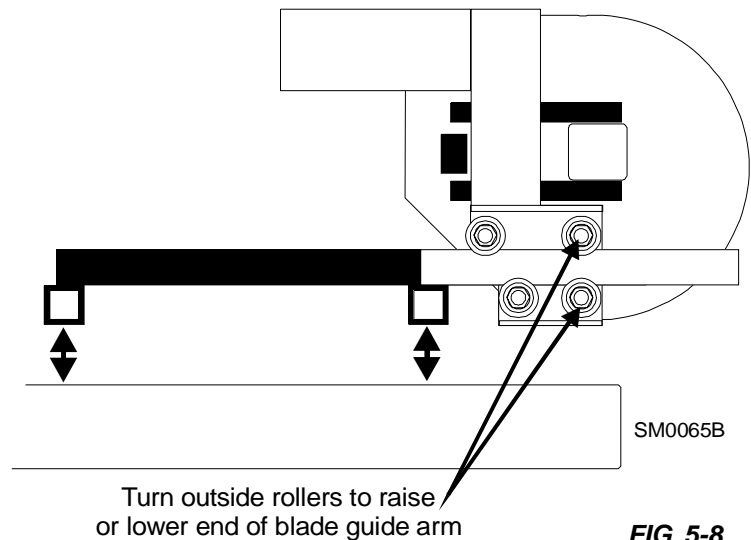

FIG. 5-8
3. Put a block of wood between the bed rail and the arm. Lower the carriage so that the arm just rests on the block. **See Figure 5-8.**